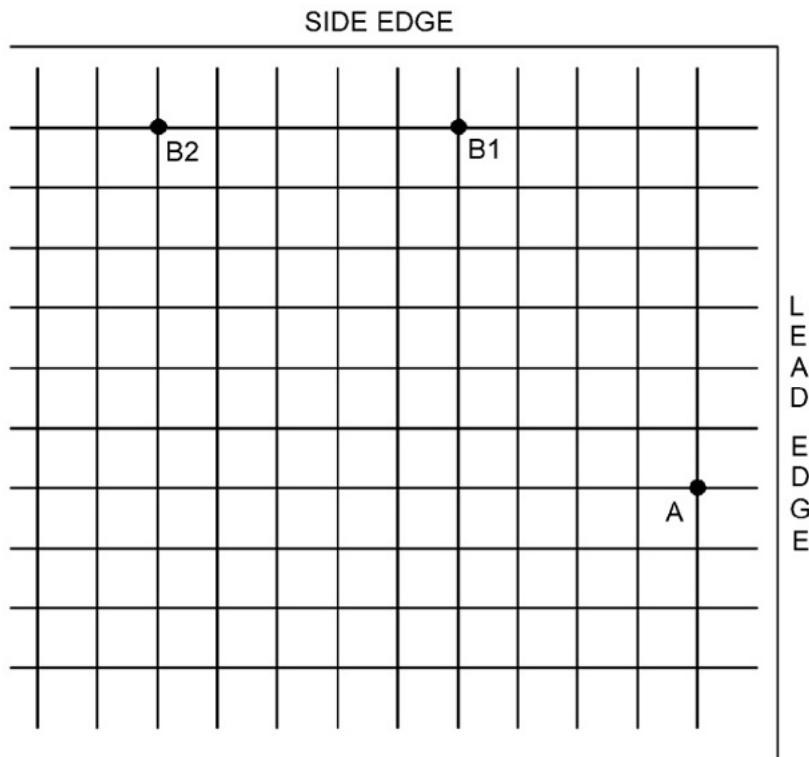

Figure 1 Test Pattern Measurement Points
- Take the third print and measure from the lead edge to point A (as shown on Figure 1). Point A is at the intersection of the 7th line from the side edge and the first line from the lead edge.
- On the third print, check the Side 2 Lead Edge Registration (point A on Figure 1). If the measured value is not 21.6mm±0.5, perform the Adjustment.